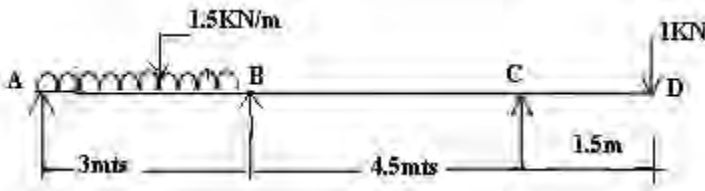

Figure 3
7. A beam loaded as shown in figure 3. The moment of Inertia of the beam is span AB is 'I' and that in span BC is 2I. Draw the SFD and BMD of the beam. [16]